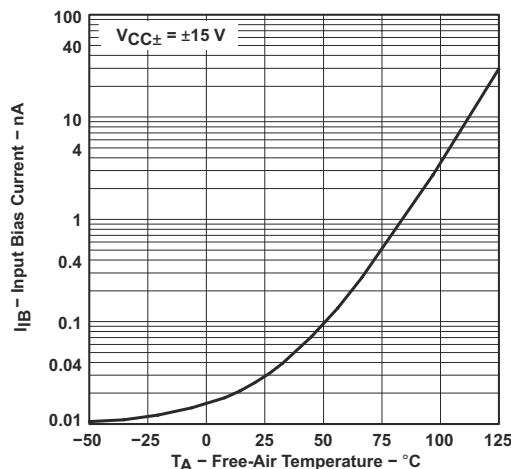

图 6-12. Input Bias Current vs Free-Air Temperature
- (1) All characteristics are measured under open-loop conditions with zero common-mode input voltage unless otherwise specified. Full range for  $T_A$  is  $0^\circ\text{C}$  to  $70^\circ\text{C}$  for TL06xC, TL06xAC, and TL06xBC and  $-40^\circ\text{C}$  to  $85^\circ\text{C}$  for TL06xL.
- (2) Input bias currents of an FET-input operational amplifier are normal junction reverse currents, which are temperature sensitive, as shown in Figure 6-12. Pulse techniques are used to maintain the junction temperature as close to the ambient temperature as possible.
- (3) Specified by design and characterization; not production tested.
- (1) All characteristics are measured under open-loop conditions with zero common-mode input voltage, unless otherwise specified. Full range for  $T_A$  is  $0^\circ\text{C}$  to  $70^\circ\text{C}$  for TL06xC, TL06xAC, and TL06xBC and  $-40^\circ\text{C}$  to  $85^\circ\text{C}$  for TL06xI.
- (3) Assured by design and characterization; not production tested.
(1) This parameter is not production tested.
(2) All characteristics are measured under open-loop conditions, with zero common-mode voltage, unless otherwise specified.
(3) Input bias currents of an FET-input operational amplifier are normal junction reverse currents, which are temperature sensitive, as shown in Fig 6-12. Pulse techniques are used to maintain the junction temperature as close to the ambient temperature as possible.
(4) Specified by design and characterization; not production tested.